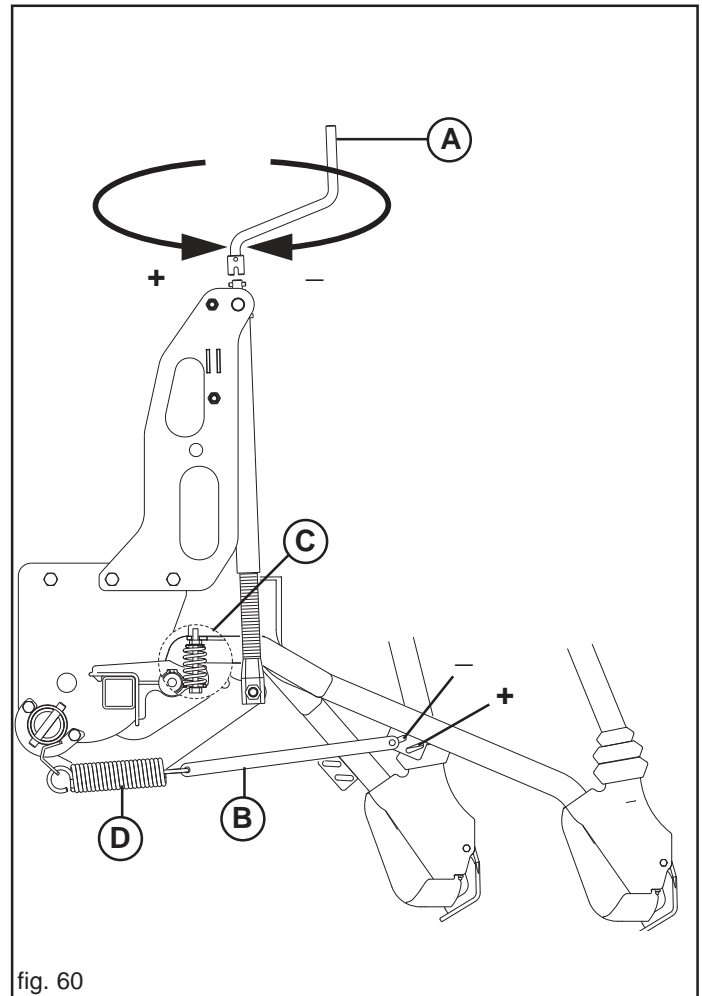

fig. 60
The seeding depth is adjusted simultaneously for all planting devices through a crank (Fig. 60). By rotating it counterclockwise, a stronger pressure can be exerted on the planting devices to the ground by means of the extension springs, thus allowing deeper seeding.
You can further adjust the pressure, separately, changing the position of the tie-rod (B Fig. 60).
With suffolk coulters only a spring (det. C, Fig. 60) is supplied, as an accessory, to reset the weight of each individual spring element (D) when the spring is fully unloaded. Shallow seeding is possible in this condition.